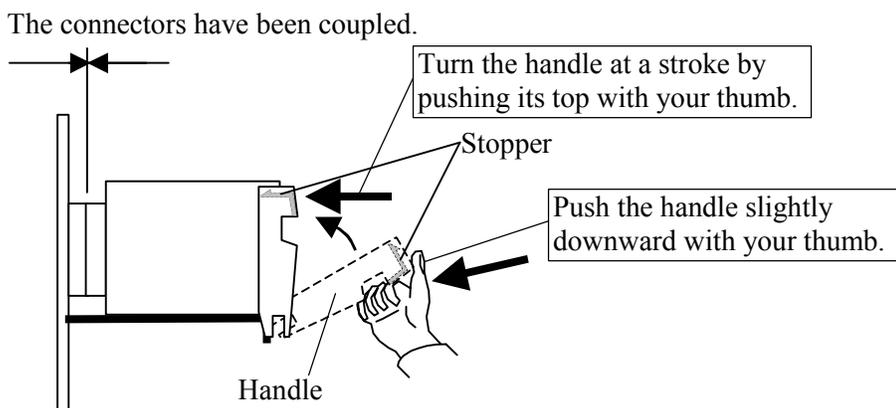

Fig. A-3 Method of Installing HDD Canister
3. HDD canister install procedure (See Fig. A-3)